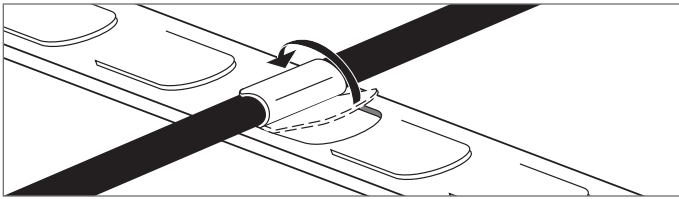

FIGURE 2.21a: Pre-Punched Stainless Steel Strapping
3. Unreel a cold lead. Secure the hot/cold joint to concrete base layer by bending back the pre-punched strapping tabs. Space the hot/cold joint at least 6" (150mm) in from the edge of the slab. See Figure 2.21a.
4. Unreel heating cable in a serpentine pattern over concrete base layer, spacing the runs as per installation plan. Using pre-punched strapping, secure heating cable to concrete base layer. See Figure 2.21a.